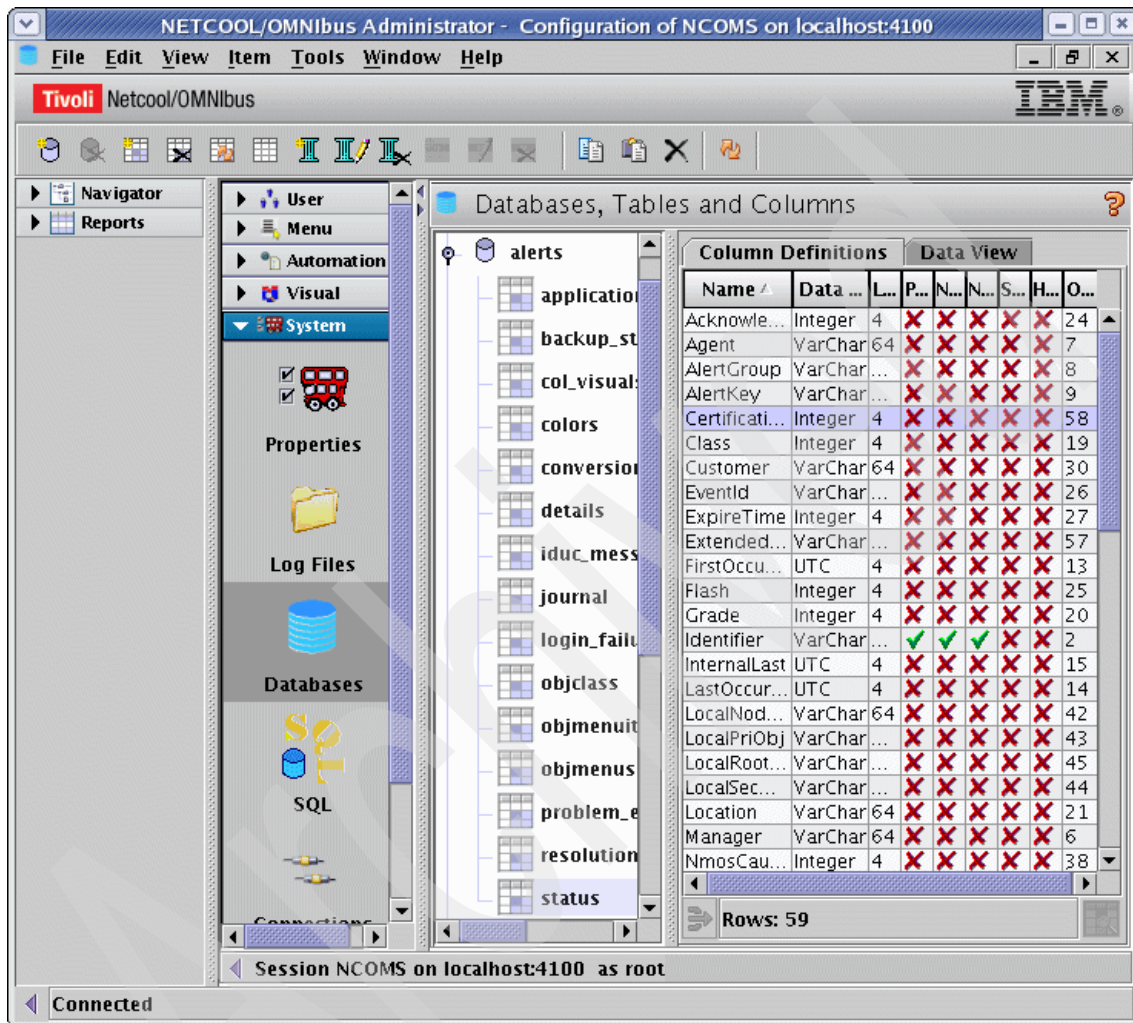

Figure 4-36 Administrator console column added
- Click **OK** and check that the column has been created correctly in the administrator console, as shown in Figure 4-36